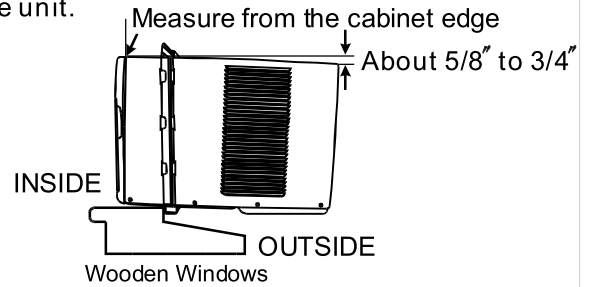

Fig.5
- A. Keep a firm grip on the air conditioner, carefully place the unit into the window opening so the bottom of the air conditioner frame is against the window sill (Fig.5). Carefully close the window behind the top rail of the unit.